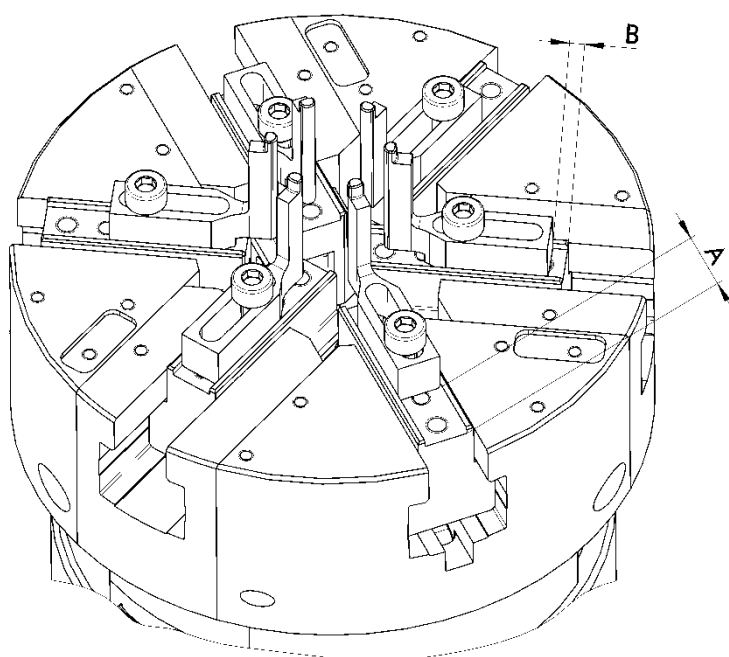

Figure 52: Distances assembly finger to base jaw
Note: Measure the distances A and B between the rear edge of the base jaws (item 16) and the top jaws and write down these values **before** loosening the top jaws from the base jaws (item 16) (see Figure 52).